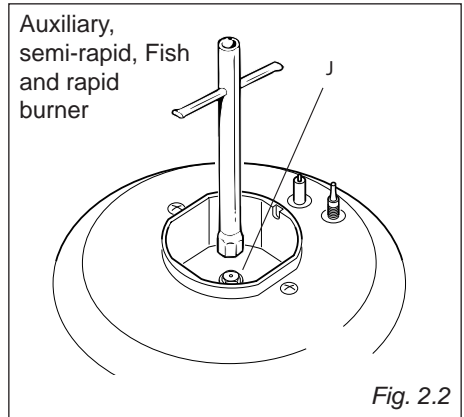

Fig. 2.2
- Using a wrench, substitute the injectors "J" (figs. 2.2, 2.3, 2.4) with those most suitable for the kind of gas for which it is to be used.